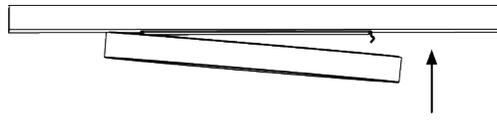

Fig. 5
5. Attach one end of the mounting bracket to the fixture. Secure the other end by pushing the fixture into the mounting bracket. (Fig. 5)